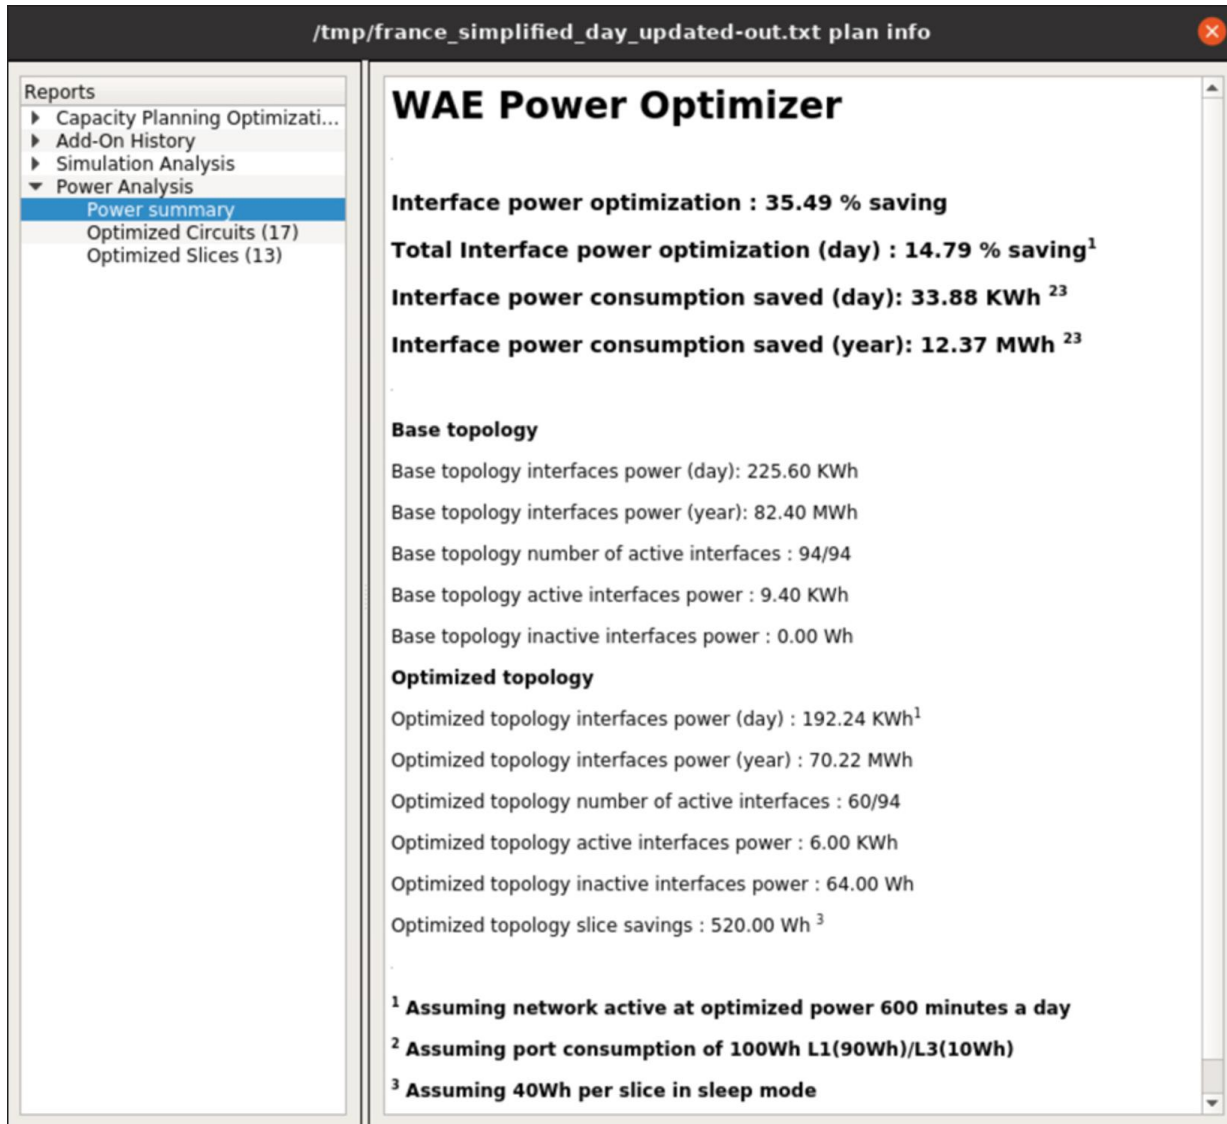

Figure 4.
- The tool also generates an energy savings report containing detailed information on expected energy savings from shutting down interfaces (Figure 4). The report includes a list of optimized network elements that can be exported to an SDN controller for further automation.